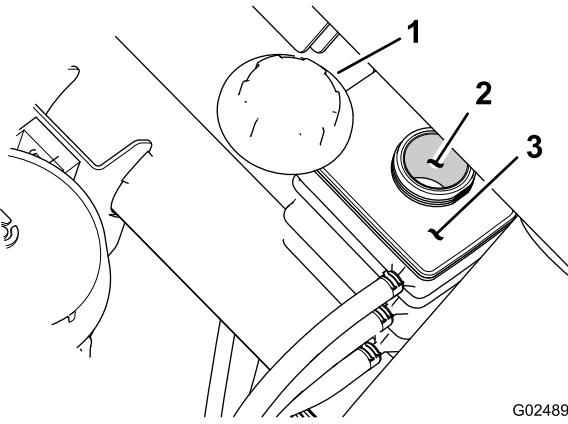

Figure 14
2. Check the coolant level at the reserve tank (Figure 14). The coolant should be up to the bottom of the stand pipe in the filler neck.
3. If the coolant is low, remove the reserve tank cap (Figure 14) and add a 50/50 mixture of water and permanent ethylene glycol antifreeze. **Do not overfill.**
4. Install the reserve tank cap (Figure 14).